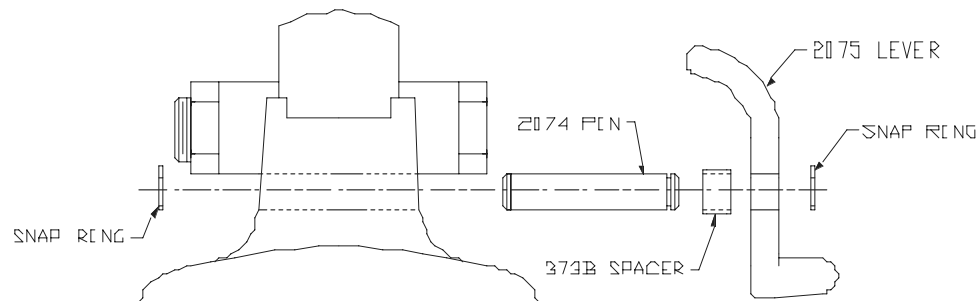

Figure 1
- Determine which side the 2075 lever will be installed, then slide 373B spacer over 2074 pin on same side (see figure 1).